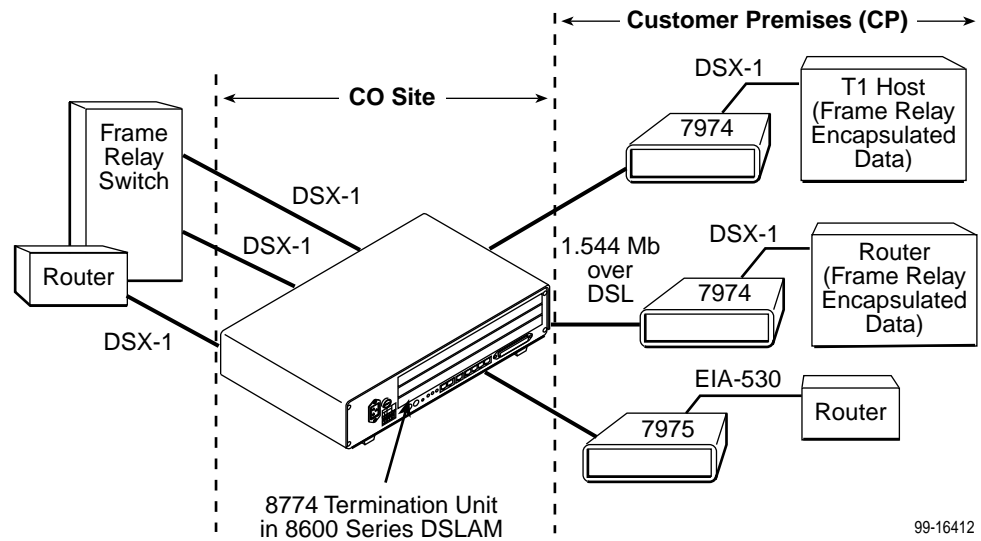

Figure 1-1. Sample CO-to-CP Configuration
Figure 1-1 shows a T1 network application using a Hotwire 8774 Termination Unit for access concentration in a central office (CO). A frame relay switch and a router are connected, through the termination unit, to partner units supporting a T1 host or router, and frame relay encapsulated or unframed data.